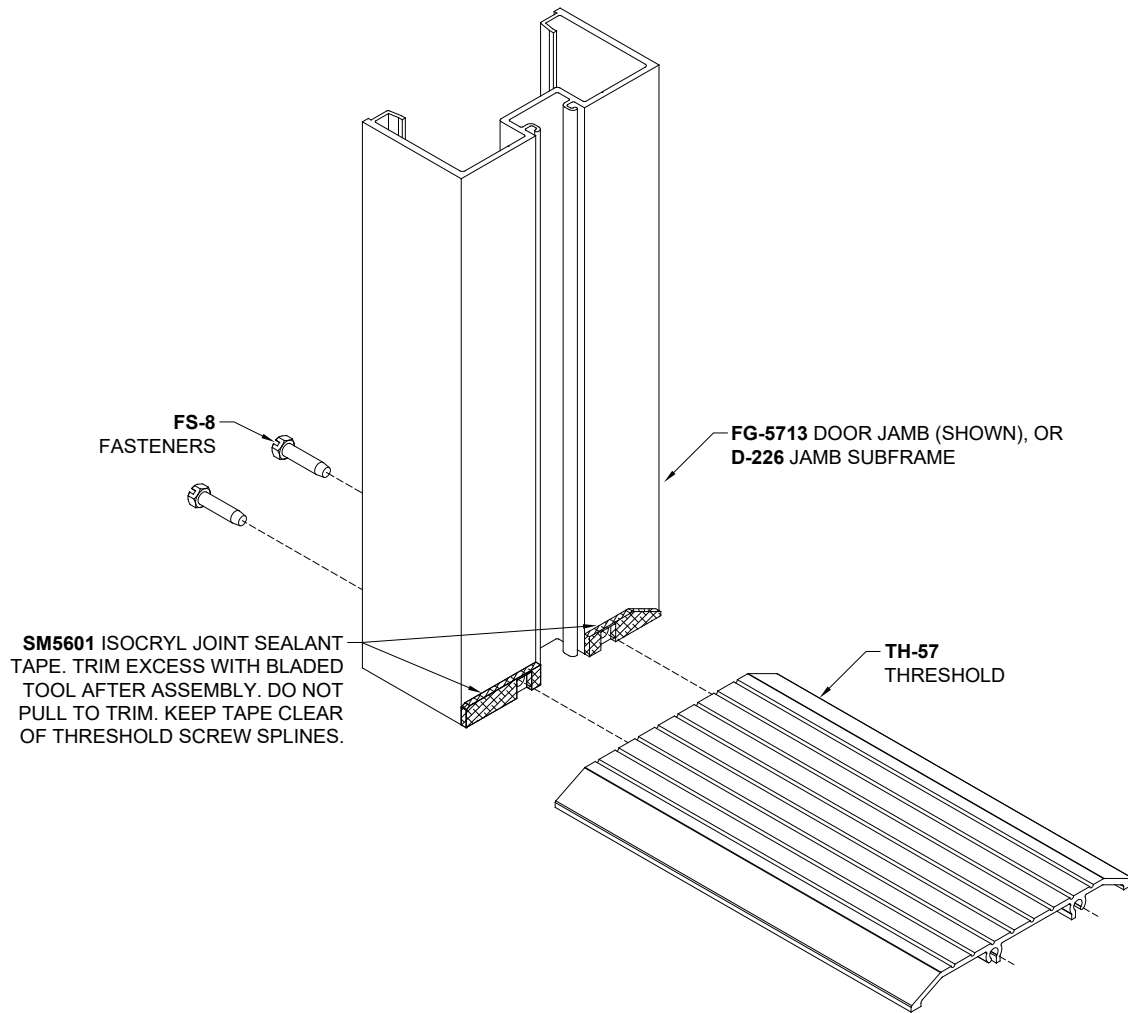

Figure 19: Threshold Attachment
- 6.2 Attach **TH-57** Threshold to Jambs with **FS-8** assembly fasteners, as shown in Figure 19.